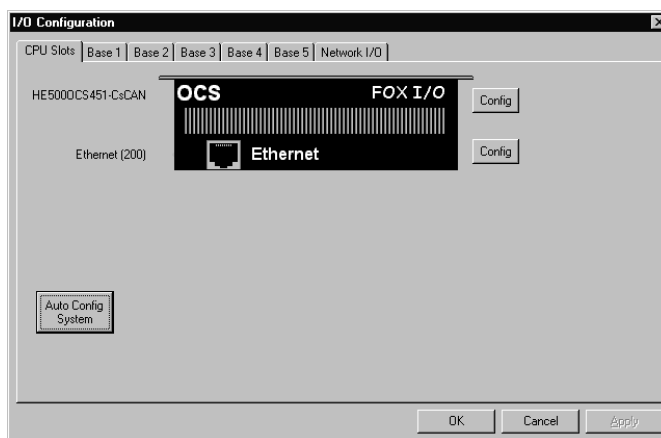
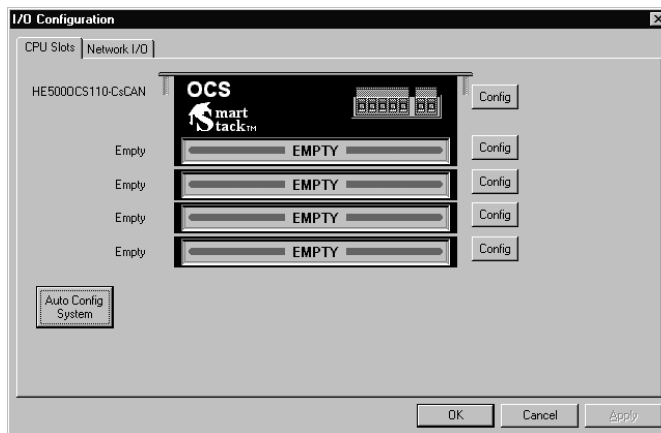
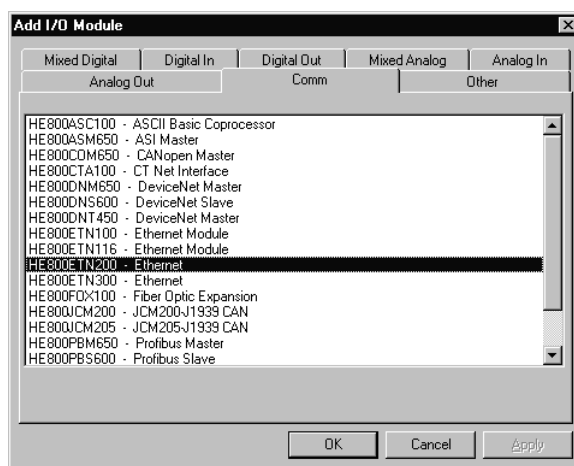

Figure 3.1 – I/O Configuration Dialog – OCS Models With Built-In Ethernet
Figure 3.2 – I/O Configuration Dialog – OCS Models With User-Installable Ethernet
Figure 3.3 – Add I/O Module Dialog – Comm Tab and Ethernet Module Selected
1. On the main Cscape screen, select the **Controller** menu and its **I/O Configure** sub-menu to open the I/O Configuration dialog (Figure 3.1 or Figure 3.2).
Note: Figure 3.1 shows a typical I/O Configuration dialog for OCS Models, which have standard FOX100 and Ethernet Modules built-in. For these models, step 3 should be skipped.
Figure 3.2 shows a typical I/O Configuration dialog for other OCS Models, in which the Ethernet Module is a user-installable option. For these models, step 3 must be performed, to configure the Ethernet Module into a SmartStack I/O slot.
- a. Referring to Figure 3.2 above, click on the **Config** button to the right of the desired I/O slot, which will open the Add I/O Module dialog, as shown in Figure 3.3.
- Now it is time to configure the Ethernet Module as appropriate for the application. Referring to Figure 3.1 or 3.4 above, click the **Config** button to the right of the Ethernet Module, and then select the Module Setup tab, revealing the Ethernet Module Configuration dialog (Figure 3.5).